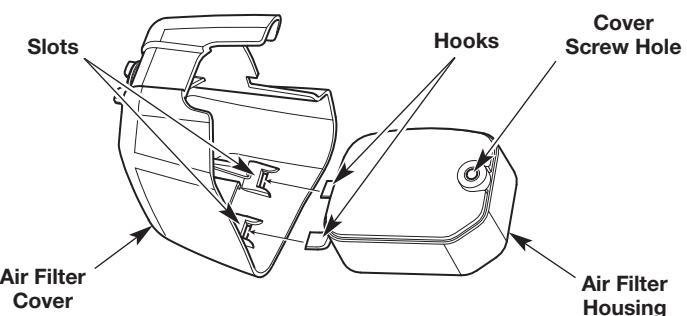

Fig. 15
7. Insert the hooks on the air filter housing into the slots on the air filter cover (Fig. 15).
8. Swing the air filter cover to the right and align the cover screw with the cover screw hole (Fig. 15). Tighten the cover screw to secure the air filter cover.